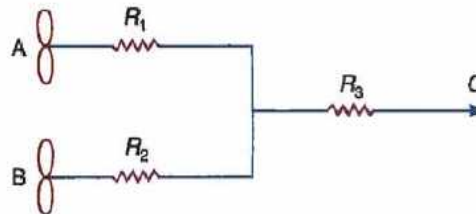

Fig. 21.18
**Example 21.6.** The fans A and B supply equal volumes of air to a system as shown in Fig. 21.18.